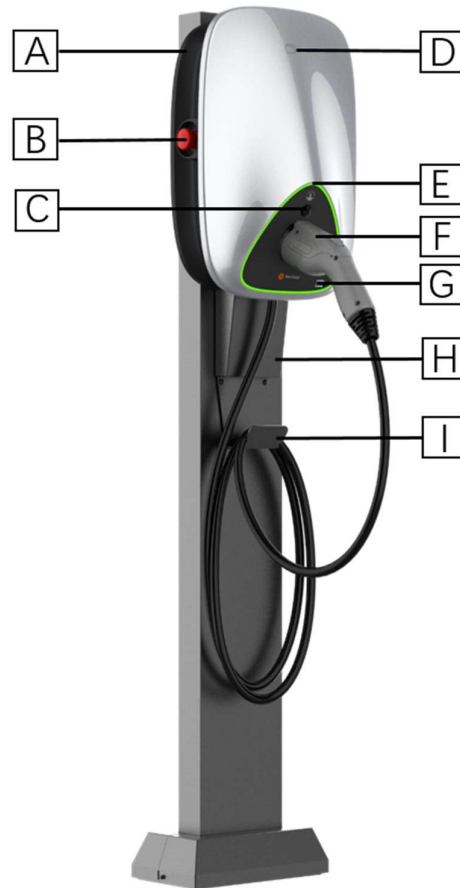

Figure 3-4 Appearance of the pole-mounted (Subject to the actual product)
- When charger is not used, the charging cable should be rolled up and put back into the cable winding trough in position [A] or placed on the bracket [I] of the stand as indicated in figure 3-4, and the charging connector should be inserted into the designated position [F] for safe storage.